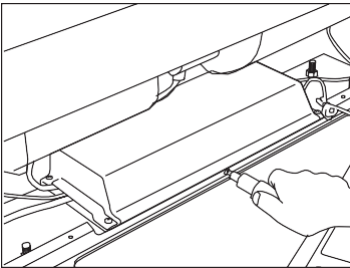

Figure 20. Unscrew single screw of electronic box.
3. Unscrew the single screw of the electronic box connecting it to the indoor unit (see Figure 20).